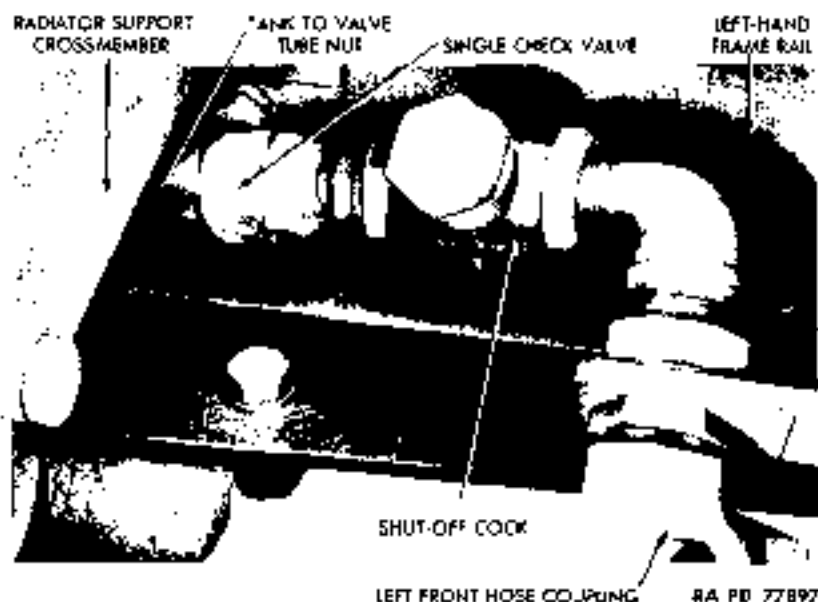

Figure 69 — Single Check Valve and Attaching Parts
(1) **DESCRIPTION** (fig. 69). A single check valve, attached to air line at shut-off cock behind front left hose coupling, is a one-way ball-type check valve. Its purpose is to prevent leakage of air system in case of coupling breakage while the truck is being towed.
b. **Removal** (fig. 69). Disconnect air tube from elbow at rear end of valve, and unscrew valve from fitting on shut-off cock.
c. **Installation** (fig. 69). Screw valve to connection on shut-off cock, and connect air line to elbow at rear of valve. Start engine, and build up pressure to 105 pounds. Inspect valve for leaks.